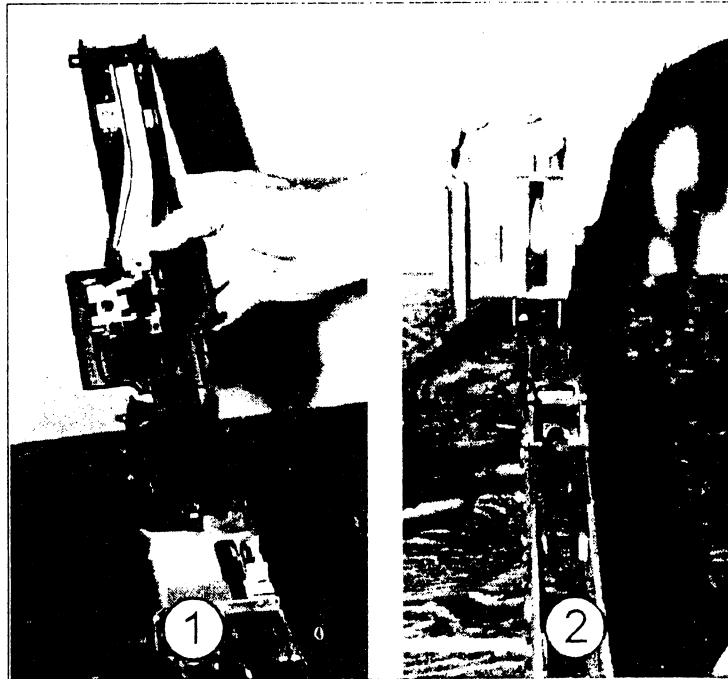

Fig. 1-19. Detailed disassembly of the receiver group.
- (1) Detail disassembly. To remove the cover and feed tray, follow the steps below (see fig 1-19):
- (c) Lift the cover (1) and feed tray (2) from the receiver.